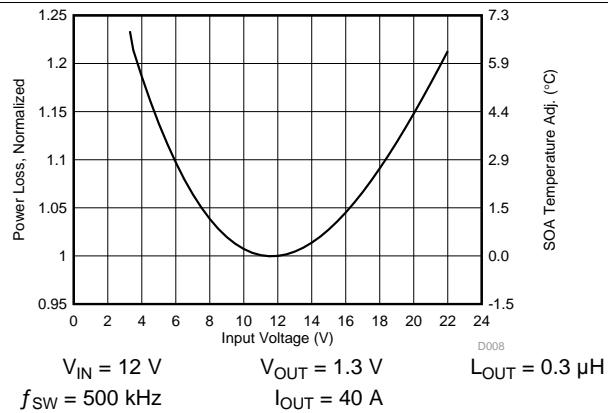

Figure 7. Normalized Power Loss vs Input Voltage
- Normalized Power Loss for input voltage ≈ 1.07 (Figure 7)
- SOA adjustment for input voltage $\approx 2^\circ\text{C}$ (Figure 7)